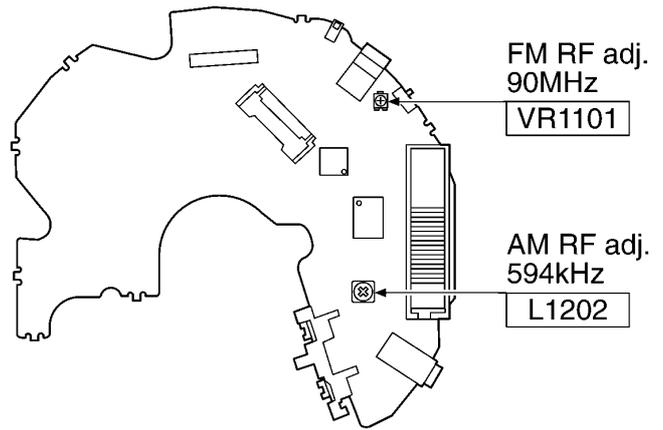

Fig. 15-3.
6. Adjust **VR1101** for maximum output. Refer to Fig. 15-3.
6. Adjust **L1202** for maximum output. Refer to Fig. 15-3.